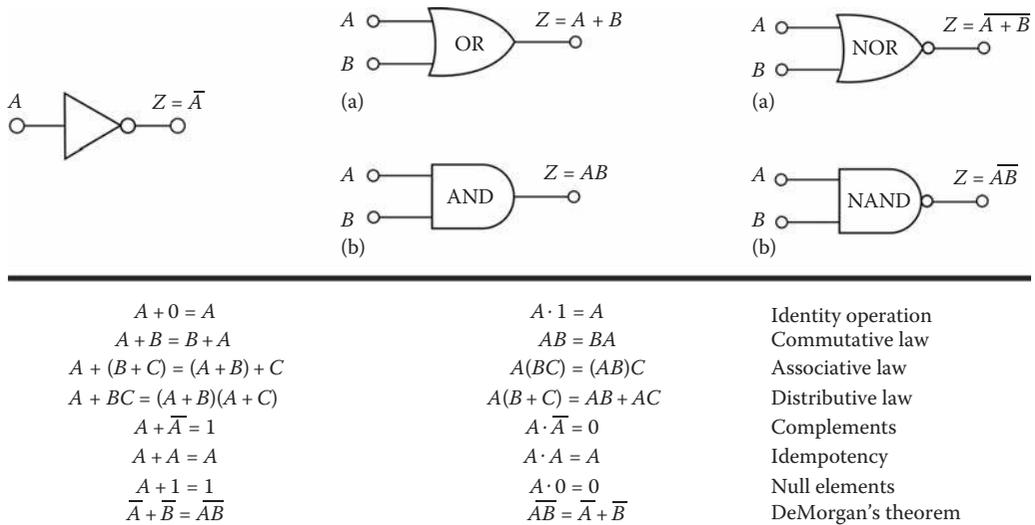

FIGURE 9.2 Basic Boolean logic symbols (top), and some useful Boolean identities (bottom).
In 1854, George Boole, in his book *An Investigation of the Laws of Thought*, introduced what is now known as Boolean algebra, a variant of ordinary taught-in-high-school algebra. Boolean algebra differs from ordinary algebra in three major ways: (1) the values that variables may assume are of a logical nature (true or false, 1 or 0), instead of a numerical representation; (2) the operations applicable to those binary values differ; and (3) the properties of those mathematical operations differ. For example, certain operations from ordinary algebra (addition: $A + B$; multiplication: AB ; and negation: $-A$) have their counterparts in Boolean algebra (Boolean operations: OR, $A + B$, read [°] A or B [°]; AND, AB , read [°] A and B [°]; and NOT, \bar{A} , read [°]not A [°], respectively). For instance, the Boolean AND function (AB) behaves on 0 and 1 exactly as multiplication does for ordinary algebra: If either A or B is 0 then so is AB , but if both A and B are 1 then so is AB . The Boolean NOT function (aka as the complement) resembles ordinary negation in that it exchanges values, whereas in ordinary algebra negation interchanges 1 and -1 , 2 and -2 , etc., while leaving 0 fixed, in Boolean algebra, NOT (\bar{A}) interchanges 0 and 1, and vice versa. Just as with normal algebra, we can also combine (chain together) Boolean functions to build complex logic systems: for example, $Y = \overline{A + B}$ (first OR A and B and then complement [NOT] the result). You get the idea. Some prominent Boolean operations, their logical symbols, and some useful Boolean identities (just as in traditional algebra) are given in Figure 9.2.